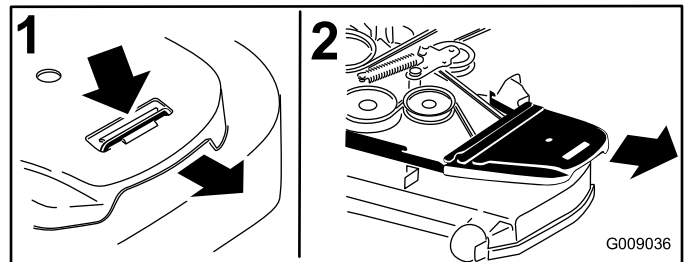

Figure 81
4. Remove the belt covers (Figure 81).